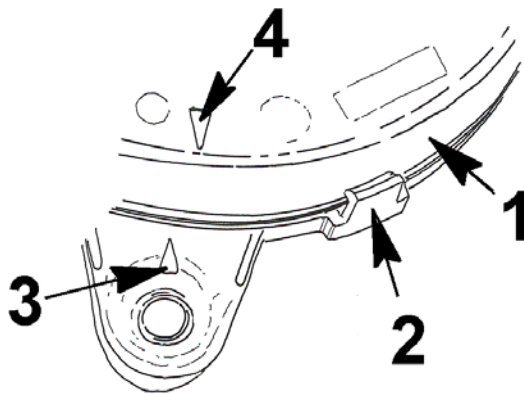

Figure 103 Clock Spring Installation Detail
2. Install the clock spring using the alignment arrows (Figure 103, Items 3 and 4) on the spring body and on the tab.